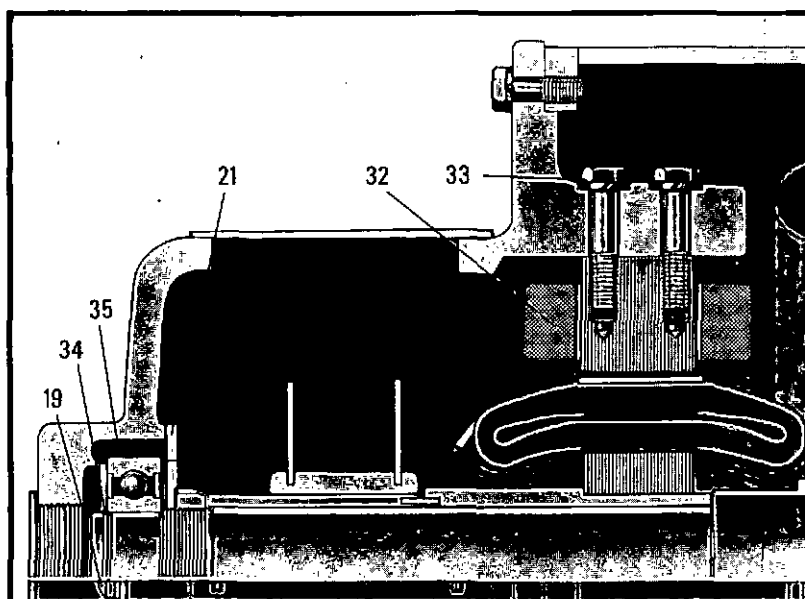

FIGURE 4 TYPICAL KEYED CUTAWAY VIEW
3. In some generators (see Figure 4) — usually rated at less than 30 kw — the exciter frame is cast as part of the end frame. The individual coils are serviceable.
In an alternate design, the end frame acts as the exciter frame for mounting the exciter field coils. See Figure 4.